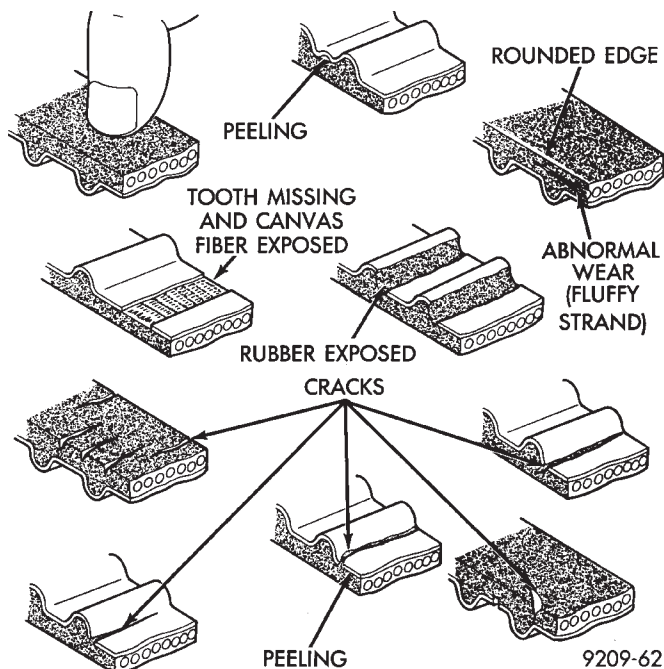

Fig. 120 Timing Belt Inspection
(1) Remove the accessory drive belts. Refer to Group 7, Cooling System for procedure.
(2) Remove timing belt covers. Refer to procedure in this section.
(3) Inspect both sides of the timing belt. Replace belt if any of the following conditions exist (Fig. 120):